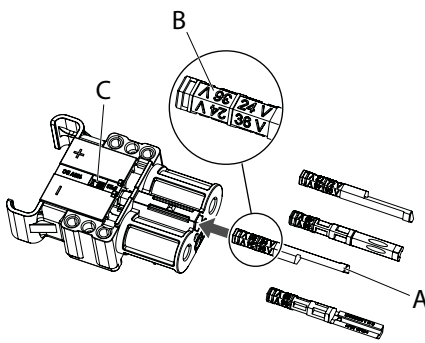

Fig. 47:
1. Rotate the coding pin (Fig. 47/A) for the required voltage so that the voltage indication faces upwards.
- For battery sockets, the voltage indication on the rear part of the coding pin is defining (Fig. 47/B).
- After insertion, the voltage indication (B) on the coding pin must be visible in the housing cut-out (Fig. 47/C).
- The voltage indication (B) on the coding pin must now be visible in the housing cut-out (C).